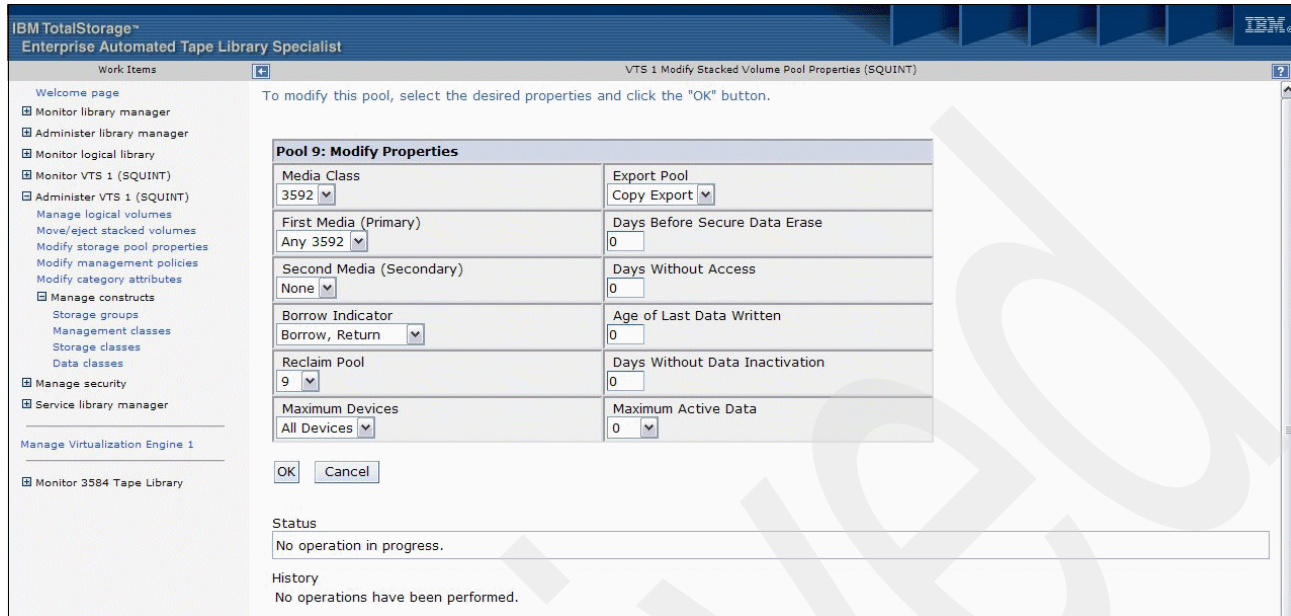

Figure 4-22 Modify Stacked Volume Pool Properties update panel from ETL Specialist
1. From the Work items of the ETL Specialist panel, click **Administer VTSx** → **Modify storage pool properties**. You will see a list of 32 Stacked Volume Pools, as shown in Figure 4-22.
2. Click **Modify** in front of the storage pool you want to change. The panel shown in Figure 4-22 will be presented.
The History table at the bottom of the panel shown in Figure 4-22 on page 165 is displayed on all panels of the ETL Specialist that allow modification of parameters. It is also displayed on those panels of the Library Manager console that allow modifications of library or TS7700 settings, and it serves multiple purposes: